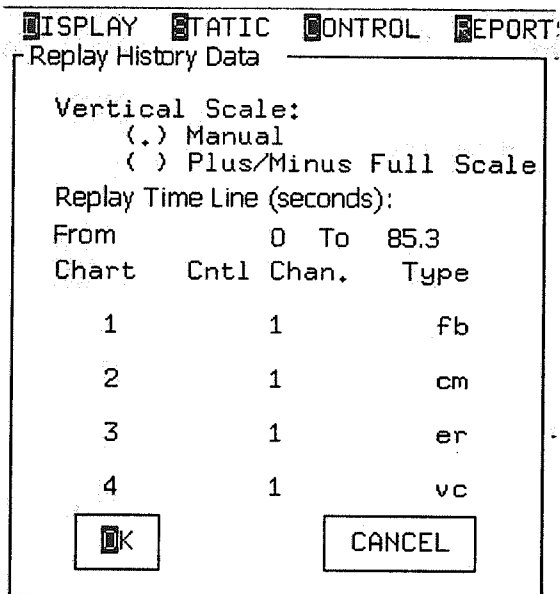

Figure 14-4 Dialog Box used to setup a Replay History Data Strip Chart
Step 1) Select **Graphs, Replay History Data**. The dialog box in **Figure 14-4** appears.